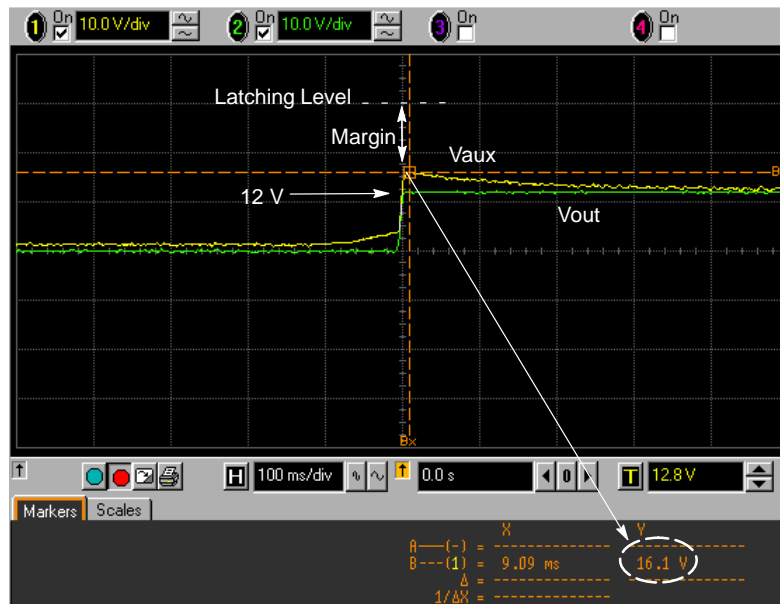

Figure 8. The selected resistor gives sufficient margin when Vout naturally overshoots on start-up.
6. Now, as detailed in step 3, capture a fresh start-up sequence and note Vaux max as in Figure 8.